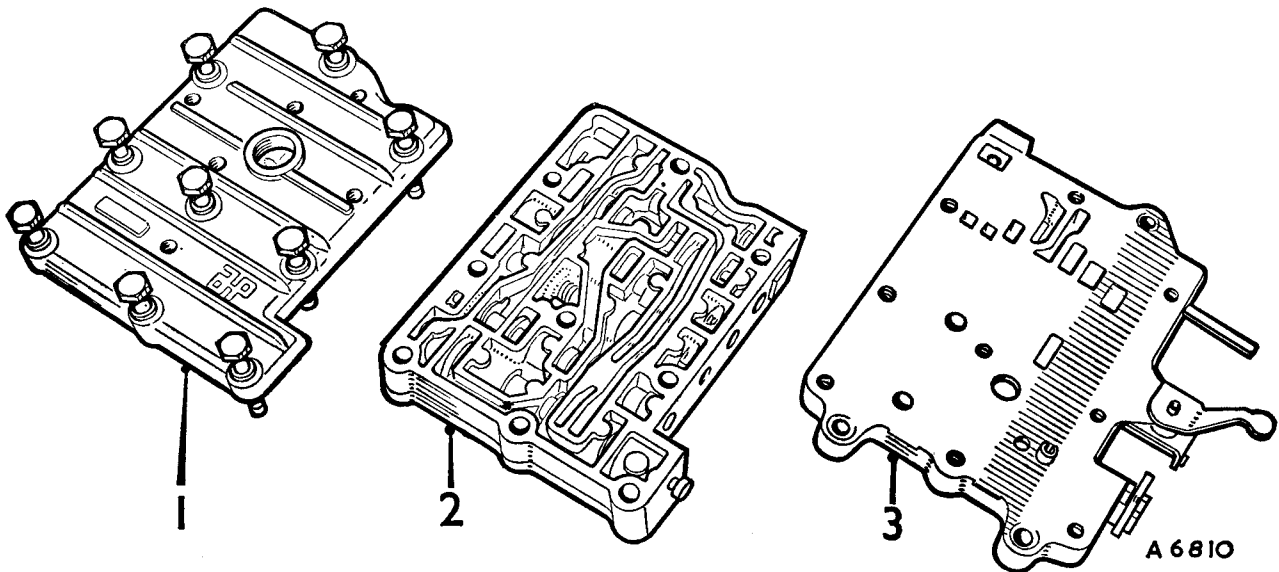

Fig. Fa.25
- (1) Remove the front grille.
- (2) Remove the filter assembly as detailed in Section Aa.2.
- (3) Remove the engine oil feed pipe.
- (4) Drain the engine/transmission unit.
- (5) Remove the transmission front cover and valve block bobbin.
- (6) Place the gear selector lever in the 'R' position on the quadrant.
- (7) Remove the bell-crank lever clevis pin. Unscrew and pull out the selector rod sufficiently to remove the valve block.
- (8) Loosen the servo unit securing bolts.
- (9) Remove the valve block assembly as individual components, i.e. the lid, valve chest, and finally (if necessary) the pipe chest (Fig. Fa.25).
- (14) Remove the lid and valve chest from the pipe chest (if removed as a unit), see Fig. Fa.25.
- (15) Remove the selector and governor valves.
- (16) Remove the 'C' clips and the plugs. Remove the regulator valve, spring, and reverse booster piston assembly.
- (17) Remove the 'C' clip and the plug. Remove the tow-start valve, spring, and spring retainer.
(18) Remove the 'C' clips and the plugs. Remove the second and fourth gear valves, spring, and booster piston.
(19) Remove the 'C' clip and tap out the plug. Remove the third gear valve booster piston, spring, spring retainer, and the plastic plug.